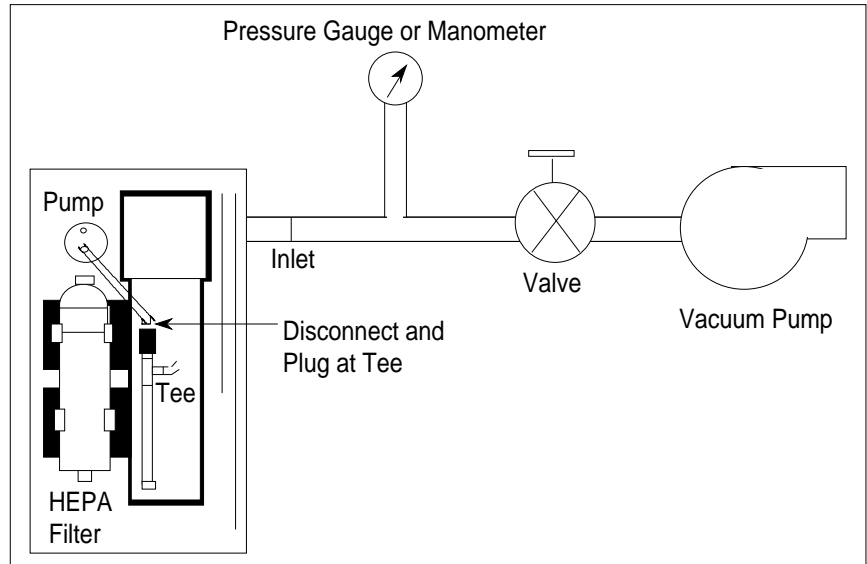

Figure 8-5
5. Plug the plastic tee side connected to the pump. Connect a vacuum source to the counter inlet. Connect a pressure gauge or manometer to the vacuum as shown in Figure 8-5. Install a shut-off valve between the vacuum pump and the pressure gauge.